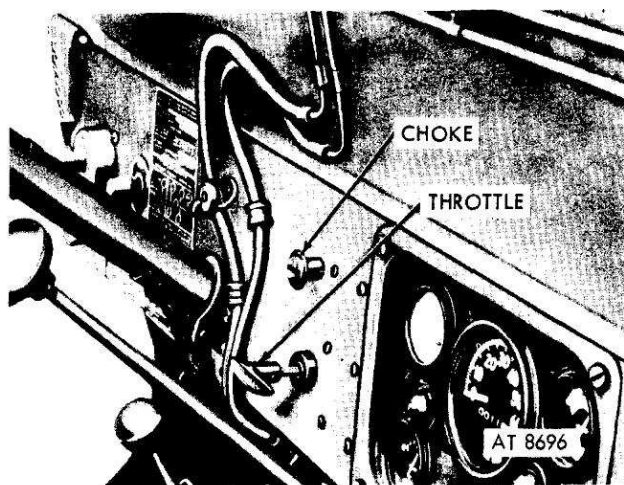

Figure 2-7. Choke and throttle.
d. Pull choke control as necessary (figs 2-7, 2-1-(D)).
g. Adjust throttle (figs 2-7, 2-1-(E)), only
i. Push in choke control (figs 2-7, 2-1-(D)), when engine warms up.